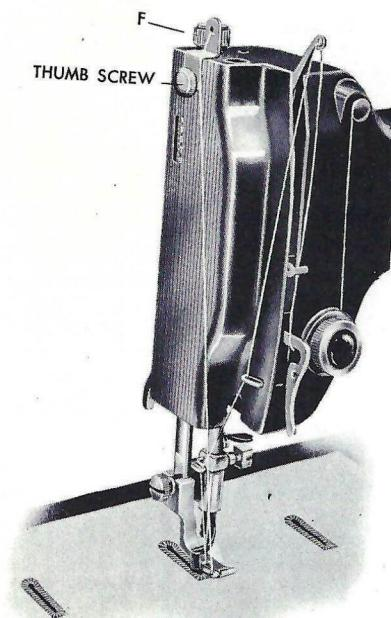

Fig. 47
9. Loosen thumb screw on top of face plate slightly and slip Gimp Guide "F" down, fitting it in place (Fig. 47). Tighten thumb screw securely.
16. Place spool of gimp on second pin "H" (Fig. 1) and pull gimp (cord) from right to left, through gimp guide "F" (Fig. 47) on face plate, then down, and, from front to back, through hole in base of presser foot.
20. Lower presser foot, making sure that Spreader Guide "J" (Fig. 50) goes through cut part of buttonhole (Fig. 47).